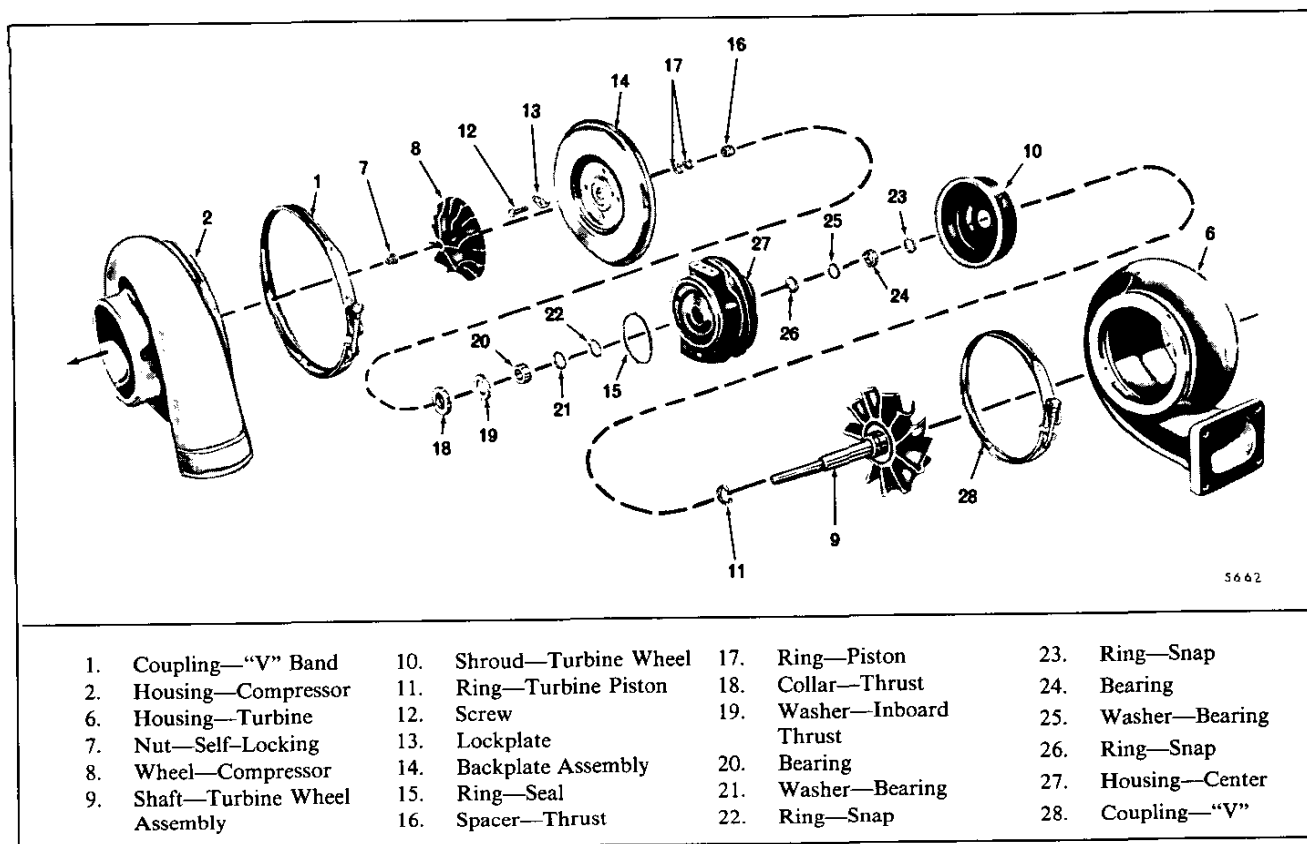

Fig. 18 – TV7301 and TV8101 Turbocharger Details and Relative Location of Parts
1. Refer to (Fig. 18) and loosen the "V" band coupling (1) securing the compressor housing (2) to the backplate assembly (14) and remove the compressor housing and "V" band.
Refer to (Fig. 18) for parts orientation and proceed as follows: